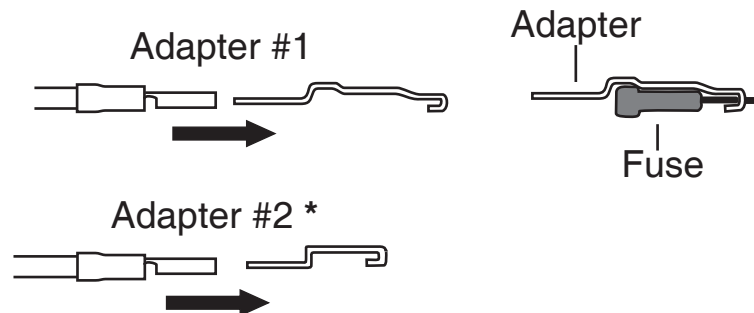

fig. 7
- a. Route the AL004 (PK-10GA) wire to a 15A ignition source (G).
- b. Strip off ¼" insulation off both sides of the inline fuse holder (N) and the AL004 (PK-10GA) wire.
- c. Crimp on the weather proof yellow butt splice (M) to AL004 (PK-10GA) wire.
- d. Crimp on the weather proof yellow butt splice (M) to one side of the inline fuse holder (O).
- e. Select the appropriate type of fuse tap in terminal for your application (fig. 7).